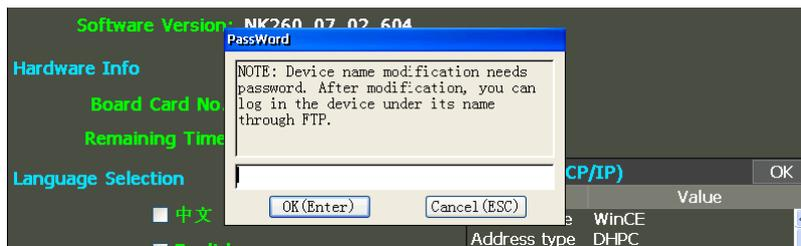

Fig. 3-66 Device info modification- password input
- 3) Click “ModDevice” to access the password input interface, as shown in Fig. 3-66.